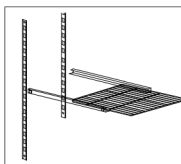

Figure 2
- Place the self support inside the refrigerator, in the most suitable position for use, inserting each support in the holes on the base of the refrigerator and inserting the side tab in the appropriate place on the sides or on the table supports. (Fig. 2)
- Slide the shelf into the supports as shown in. (Fig. 2)